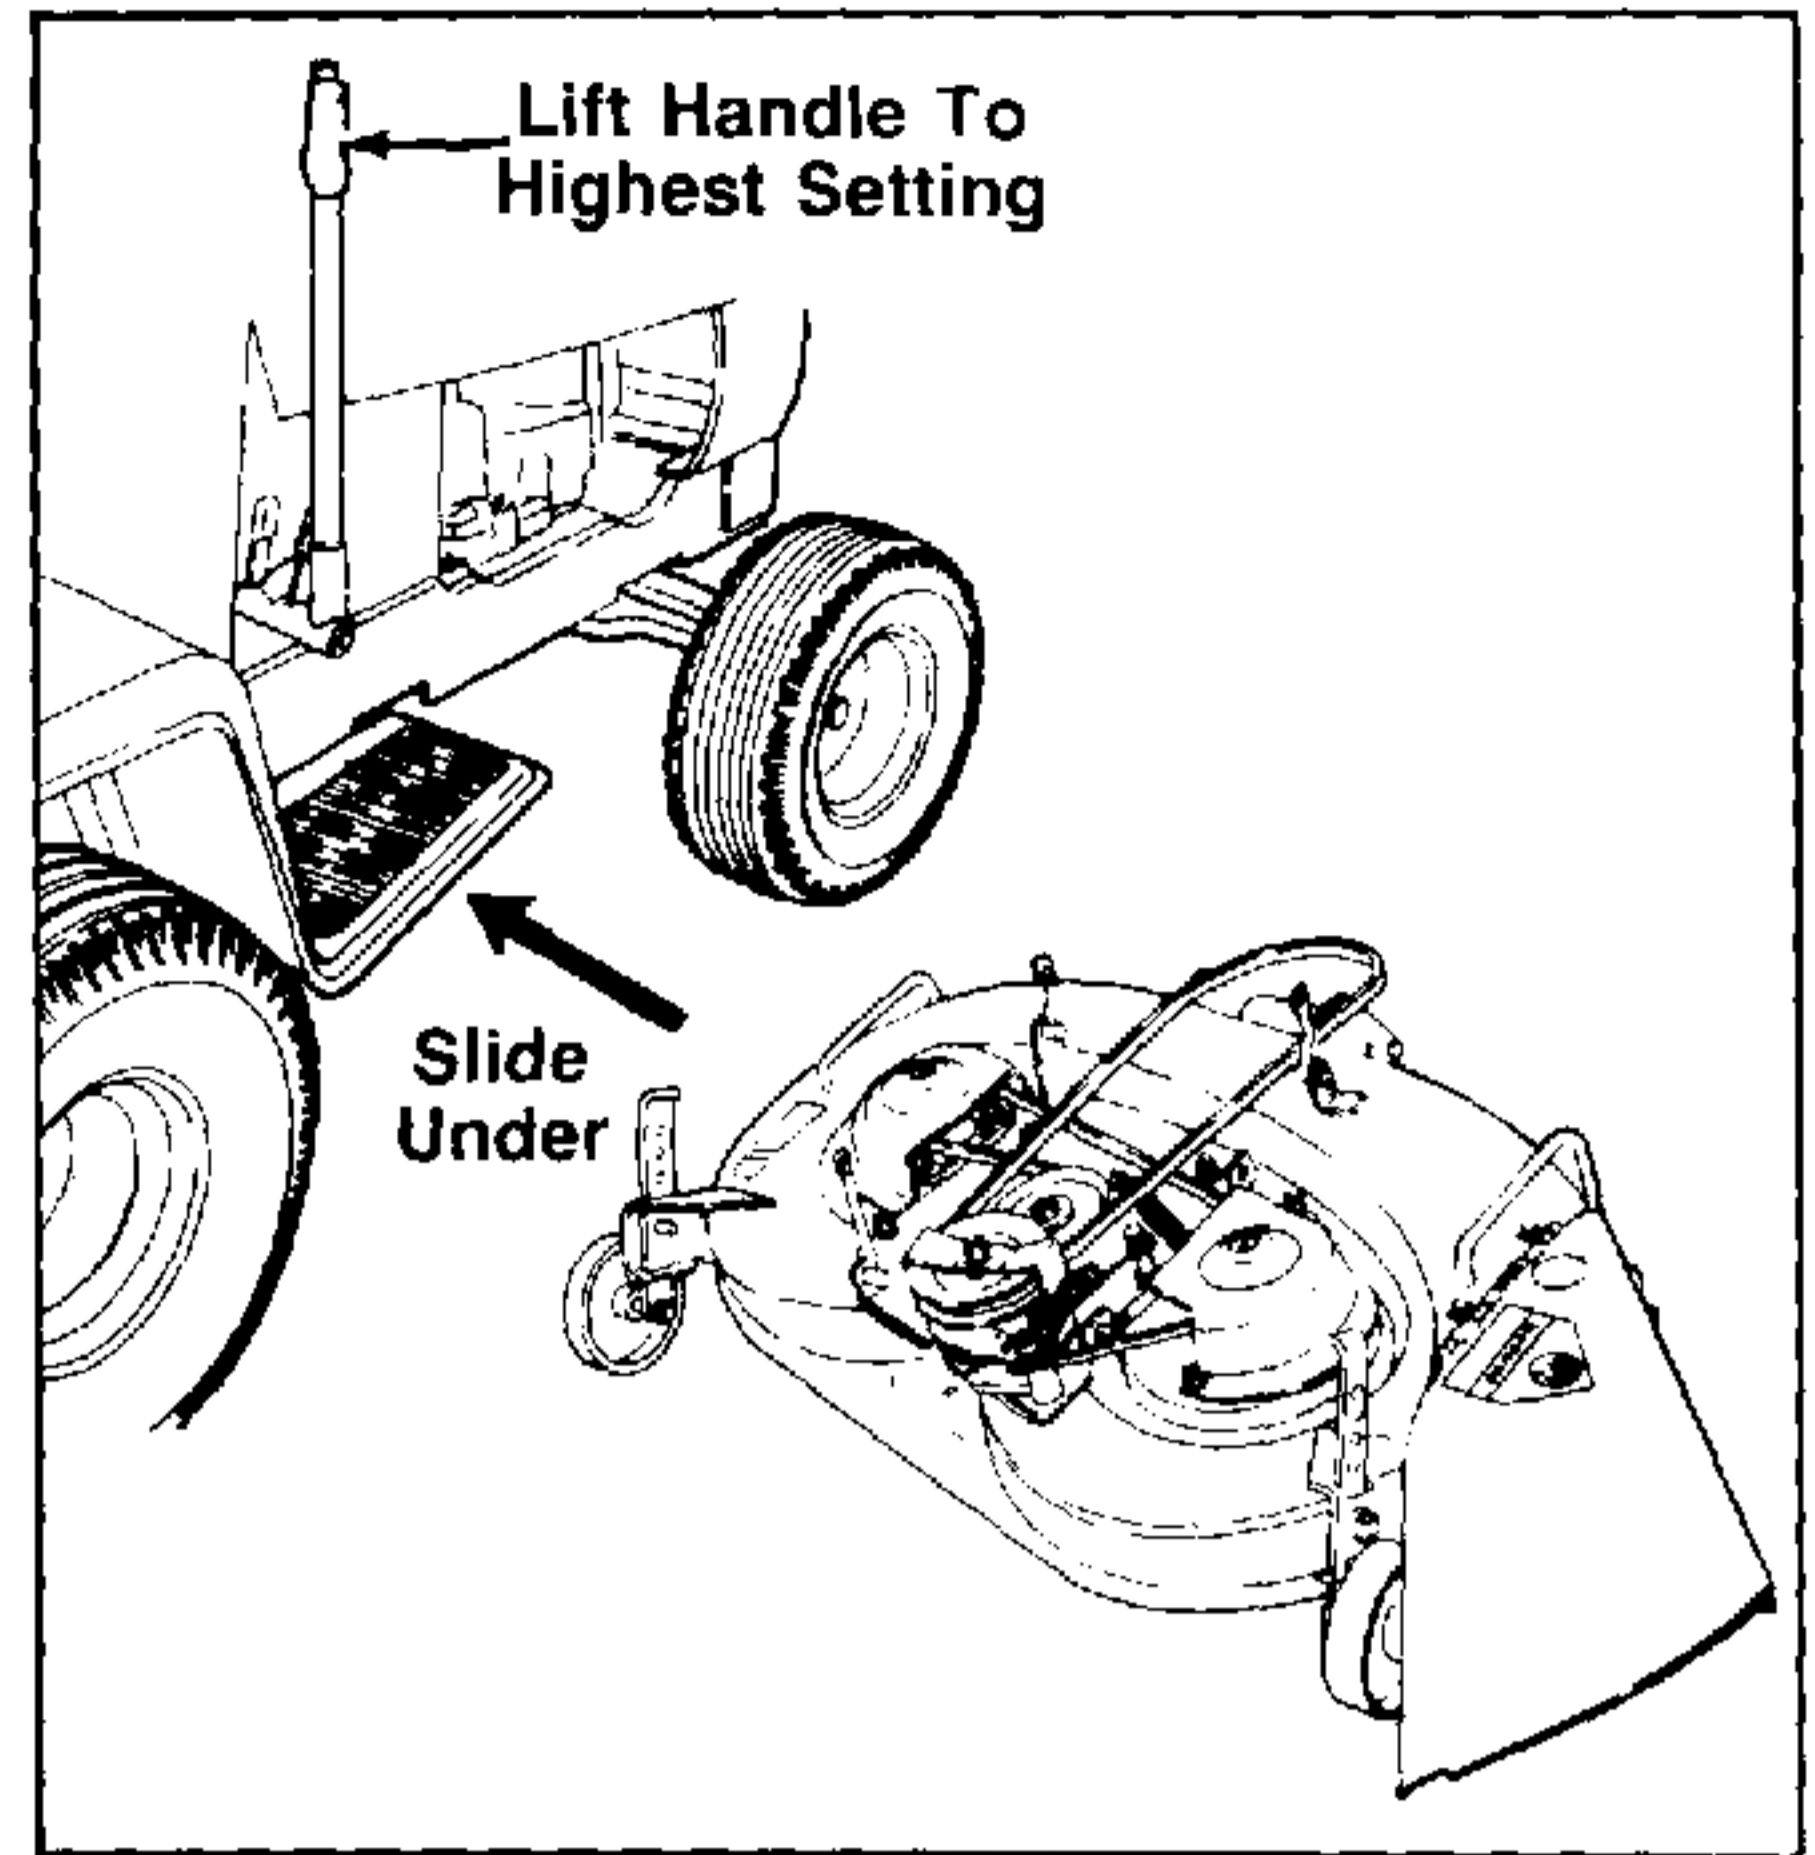
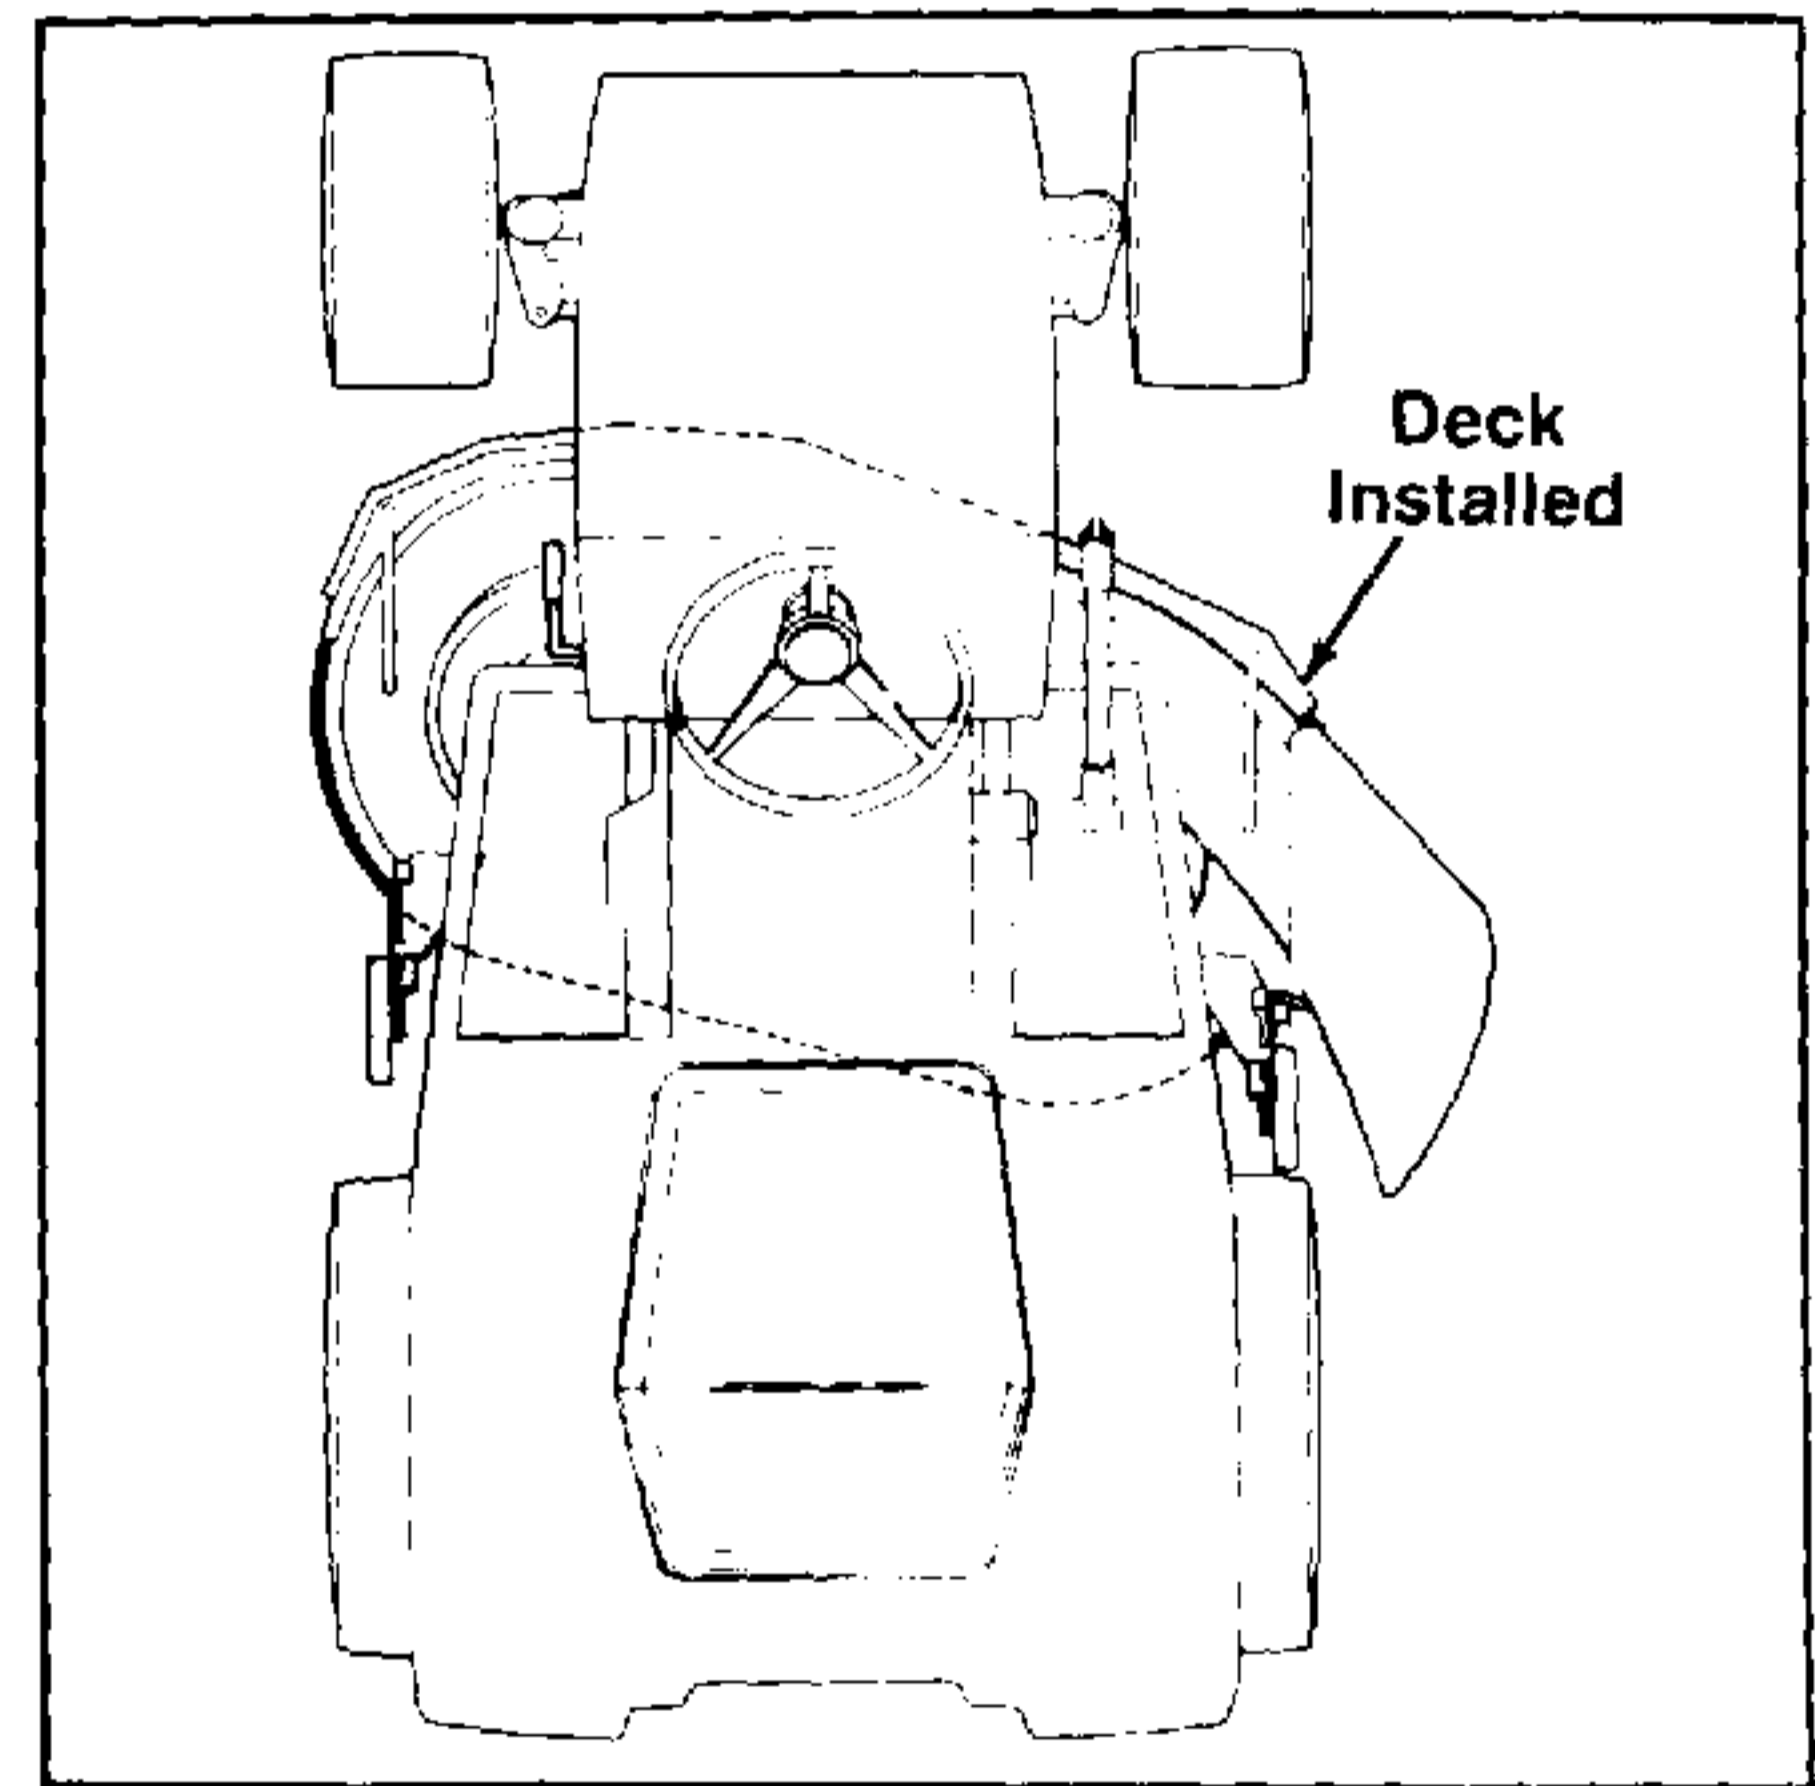

FIGURE 4.
FIGURE 5.
3. Raise the lift handle to its highest setting. Refer to figure 4 and place the deck on the right side of the tractor, with the front of the deck facing toward the front of the tractor. Slide the deck under the tractor until it is aligned with the tractor as illustrated in figure 5.